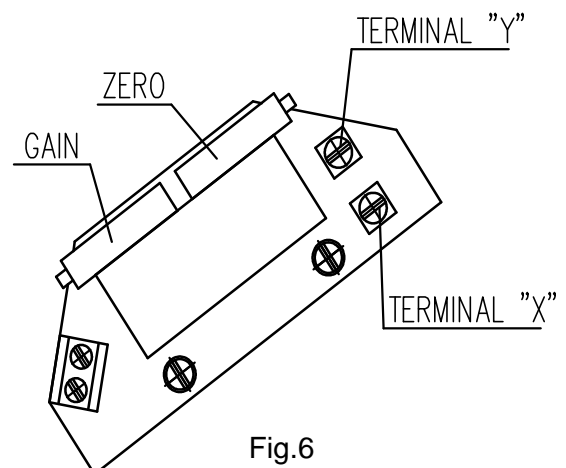

Fig.6
4.4.1 EPV – the 2-wire version (Fig. 6)
- Adjust the resistive transmitter according to the previous chapter. The resistance is to be metered on the terminals X-Y (Fig. 6). The used transmitter resistance is 100 Ω .
- Turn the adjusting trimmer ZERO (Fig. 6) to adjust the output current signal rate measured on the terminals 81-82 to 4mA.
- Turn the adjusting trimmer GAIN (Fig. 6) to adjust the output current signal rate measured on the terminals 81-82 to 20mA.
- Adjust the resistive transmitter according to the previous chapter. The resistance is to be metered on the terminals X-Y (Fig. 6).